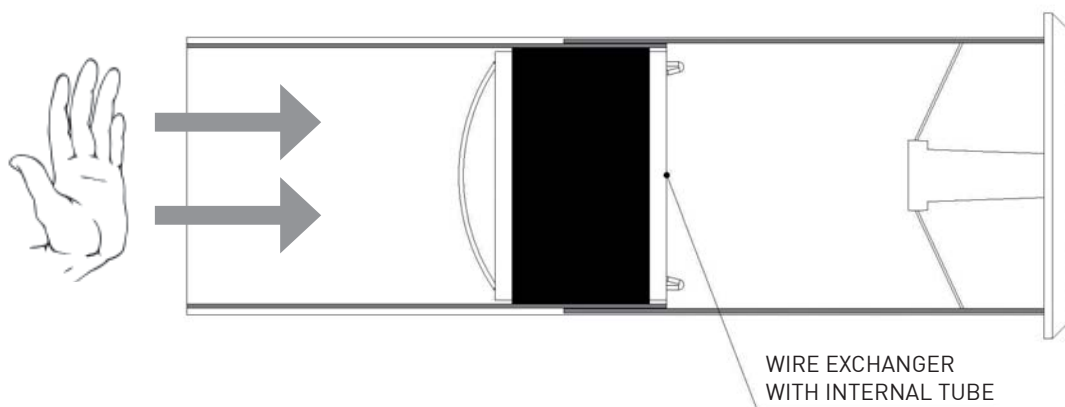

Figure 7
4. Place the heat exchanger at the extremity of the inner tube. (Figure 7)